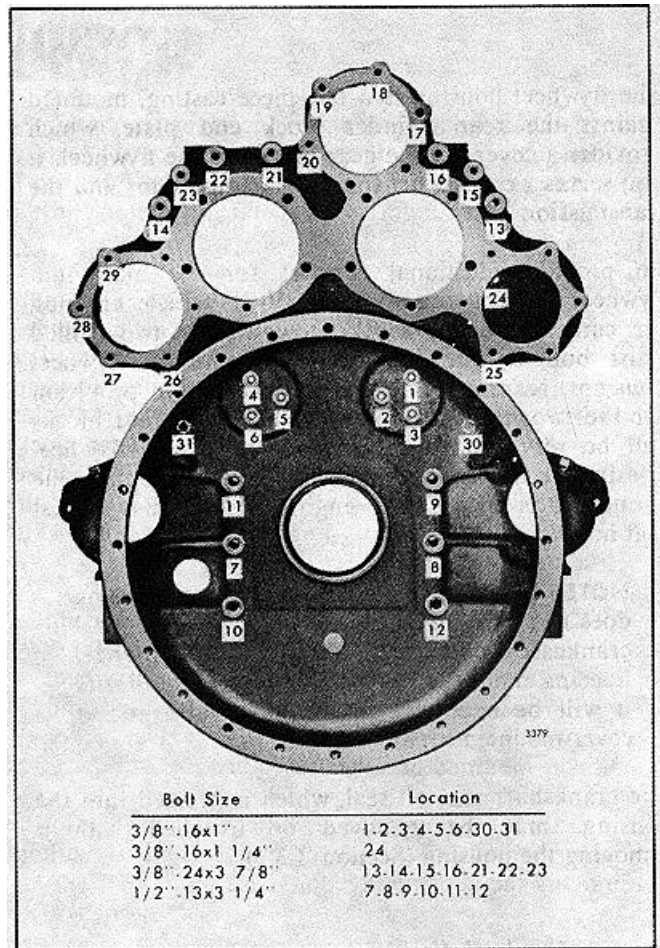

FIG. 3 - Flywheel Housing Bolt Size and Tightening Sequence (Operation 1)
6. Refer to Fig. 3 and install (finger tight) six new 3/8"-16 flanged hex head bolts with a self locking sealing patch into the tapped holes of the idler gear hub and idler gear hole spacer, if used. Remove the pilot studs.
9. Refer to Fig. 3 for the bolt tightening sequence. Start at number 4 on a right-hand rotation engine or at number 1 on a left-hand rotation engine and, using the proper sequence, bring all bolts to within 10-15 lb ft (14-20 Nm) of their specified torque, drawing the mating parts together evenly.